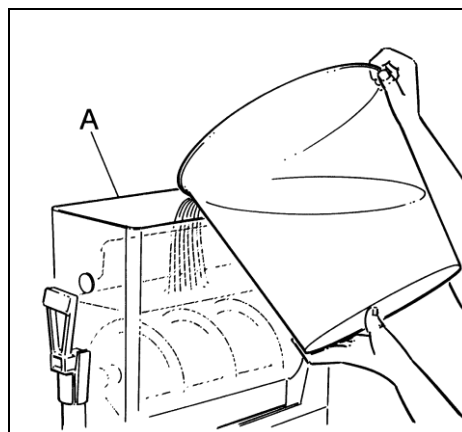

Fig. 19
- Pour the mix obtained into the bowl respecting the maximum capacity of 12 litres (see fig.19).